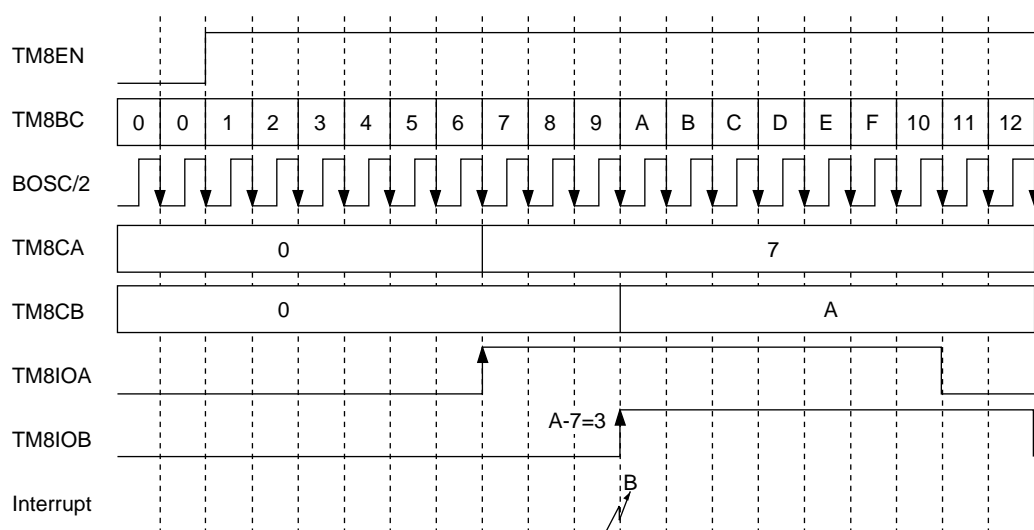

Figure 4-4-12 Two-phase Capture Input Timing (16-bit Timer)
- (2) Set TM8NLD and TM8EN of TM8MD to 1 and 0 respectively. This enables TM8BC and RS.F.F.
- (3) Set TM8NLD and TM8EN to 1. This starts the timer. Counting begins at the start of the next cycle.
- (4) Enable interrupts after clearing all prior interrupt requests. To do this, set IQ0LV[2:0] of the external interrupt 0 control register (IQ0ICH) to the interrupt level 0 to 6), TM8BIR of the timer 8 capture B interrupt control register (TM8BICL) to 0, and TM8BIE of the timer 8 capture B interrupt control register (TM8BICH) to 1. Thereafter, a timer 8 capture B interrupt occurs when the capture to TM8CB register is generated on the rising edge of TM8IOB pin.
- (5) Execute the interrupt service routine. The interrupt service routine determines the interrupt group and factor, and clears TM8BIR flag.
- (6) Calculate the signal width. Save the TM8CA value and the TM8CB value to the data registers (DR0 to DR3), and subtract the TM8CA value from the TM8CB value. The width will be calculated correctly even if the TM8CA value is greater than the TM8CB value by setting TM8LP to 0. Figure 4-4-12 shows 000A-0007=0003, or 3 cycles.
Timer 8 functions as a one-phase capture input. Select up counting. Timer 8 does not operate stably when BOSC stops (in STOP mode). All external inputs are sampled on BOSC (synchronized with BOSC) when the external clock operates. The TM8CA register is captured on the rising edge of TM8IOA pin, and the TM8CB register is captured on the rising edge of TM8IOB pin. A capture B interrupt is generated on the TM8CB capture, and the TM8CA and TM8CB values are read during the interrupt processing routine. Figure 4-4-12 shows $000A-0007=0003$, or 3 cycles. The same result is obtained even if the TM8CA value is greater than the TM8CB value. For example, $0003-FFFF=0005$. The signal width is calculated by ignoring flags.